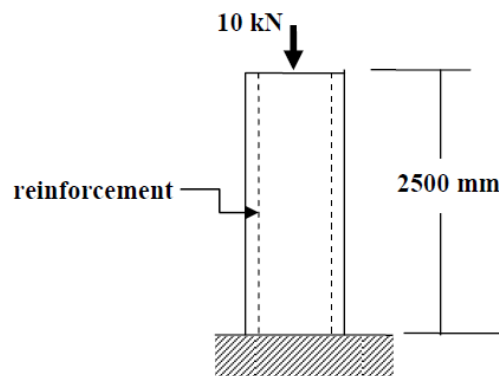

Fig.Q4
4. A reinforced concrete column shown in Fig.Q4 supports a load of 10 kN. The load is shared between the steel reinforcement and the concrete. The cross-sectional areas and Young's moduli are:
- (a) A pair of vertical curves are to connect a series of tangent grades for which the slopes are shown in Figure Q4. The middle section is 150 metres long.